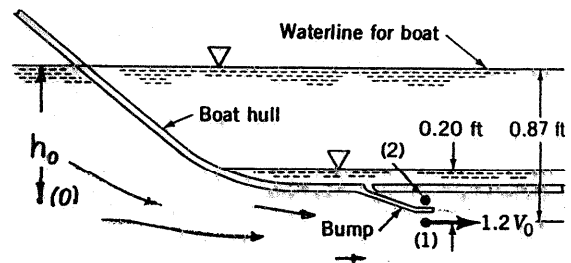

FIGURE P3.88
3.88 An automatic boat bailer is shown in Fig. P3.88. The "bump" on the bottom of the hull is designed to increase the velocity at point (1) to approximately $1.2V_0$, where V_0 is the velocity of the boat through the water. If the pressures at (1) and (2) are essentially equal, what minimum velocity is needed to initiate the bailing action?